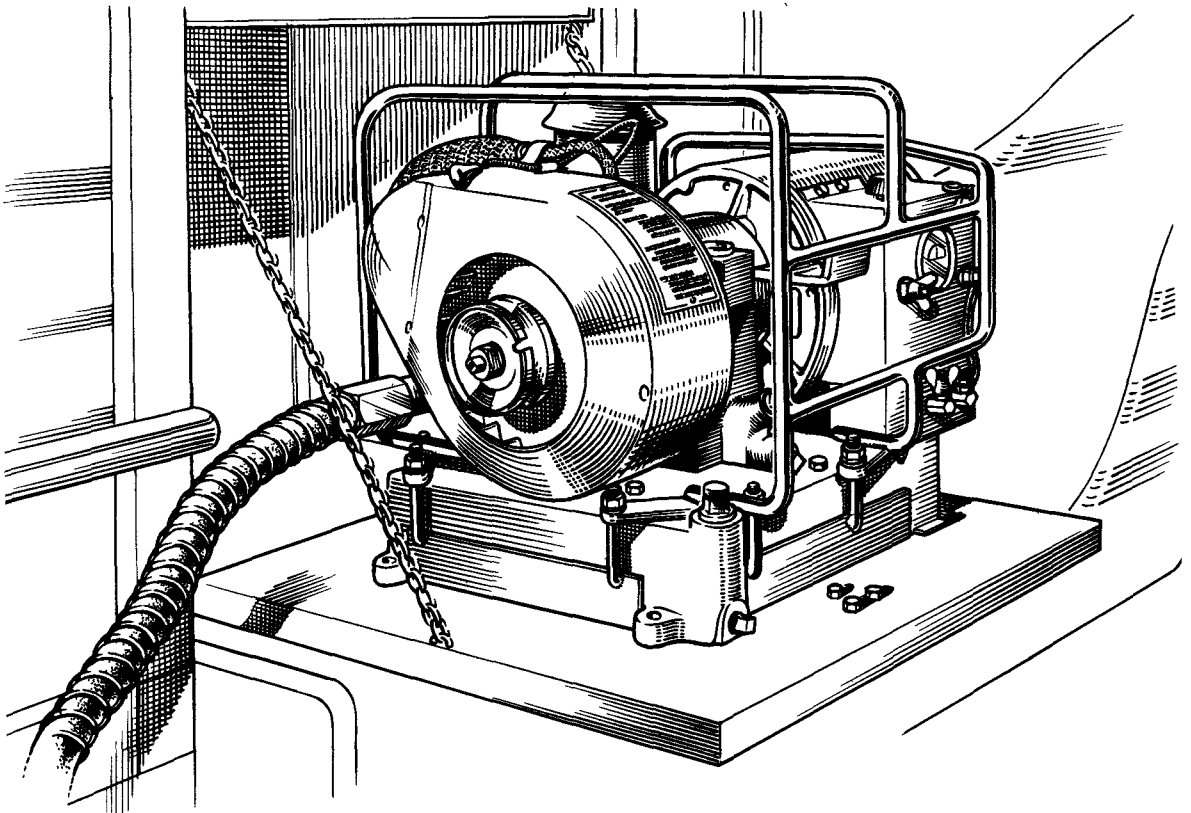

FIG. 29 CHARGING SET 300W IN A TRUCK 1-TON FFR
- (1) The charging set and its accessories are normally held by units. Operating instructions are supplied with it.
- (2) On Austin K9 Mk. 2 FFR and Radio trucks, the charging set can be operated on the hinged flap of its locker as shown in fig. 29. On 1-ton Armoured FFR it can be operated in its stowage position on the RH front wing.
- (3) A Connector twin No. 53 is supplied in the charging set kit. Fit it between the charging set and the CHG SET terminals on Panel power distribution No. 8 when this is installed. When the panel is not installed, connect the charging set direct to the batteries.